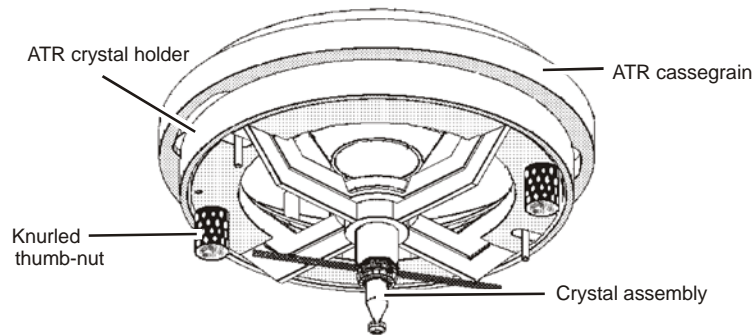

Figure 31 The ATR crystal holder and ATR cassegrain
4. Fit the two adjustment thumb-nuts (Figure 31).